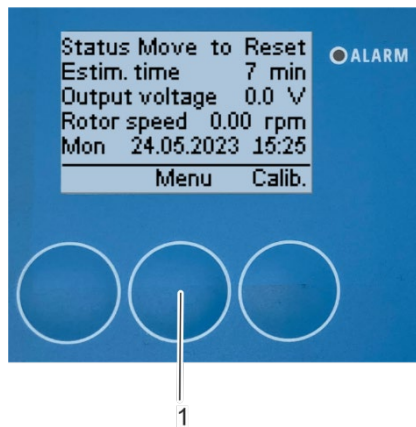
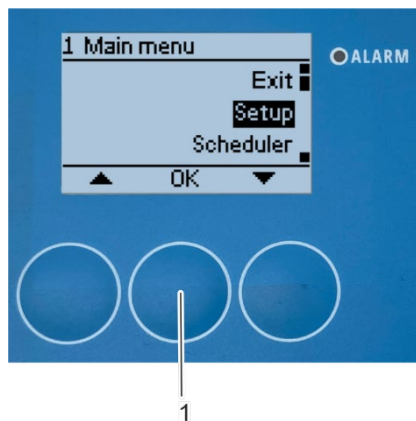

Fig. 120: Open main menu
Fig. 121: Select submenu “Setup”
1. Press **[Menu]** (Fig. 120/1) to open the “1 Main menu” menu (Fig. 121).
⇒ The “1 Main menu” menu appears on the display (Fig. 121).
2. Select the “Setup” submenu and confirm with **[OK]** (Fig. 121/1).